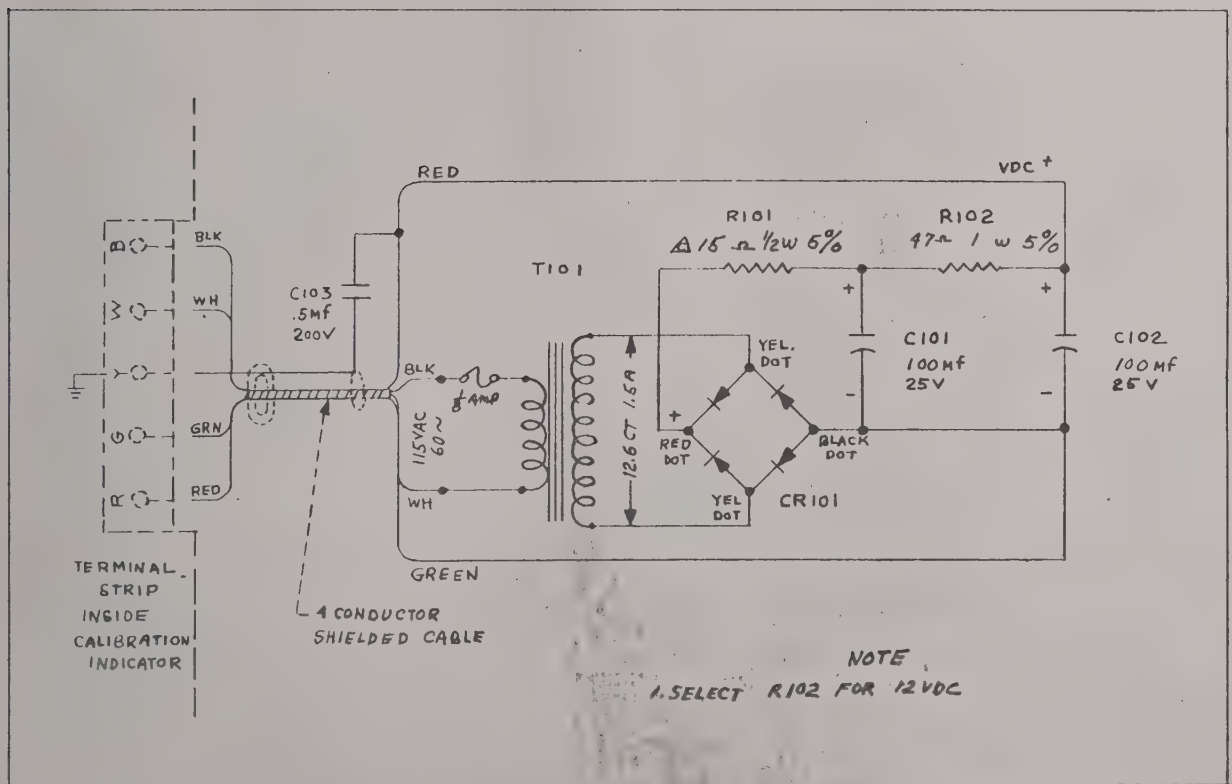

Figure 7. Schematic Diagram AC Power Pack
e. If the voltage in step "d" reads 115V AC, the AC Power Pack is faulty and should be replaced or repaired. Refer to Figure 7, schematic wiring diagram for AC Power Pack.